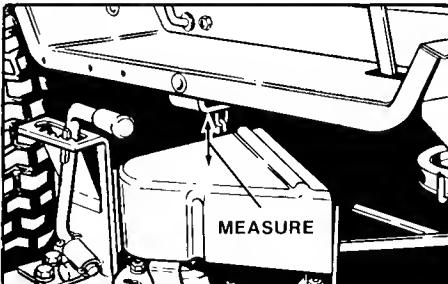

Figure 47. Measurement - 42" Mower
2. Measure the distance between top of pulley cover and bottom of upstop bracket (figure 47). If small lift lever (F, figure 8) is used, the measurement should be 2". If large lift lever (B, figure 8) is used, the measurement should be 1 13/16".